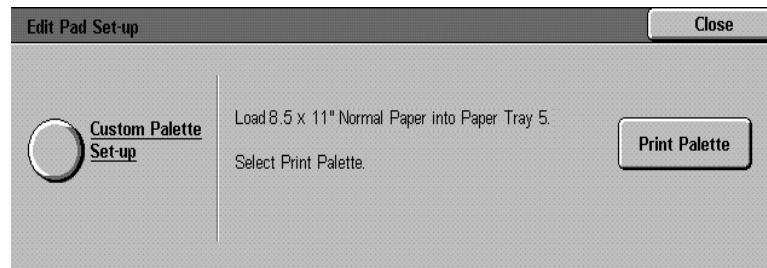

Figure 10: Edit Pad Set-up screen
- 7 From the **Edit Pad Set-up** screen (Figure 10) touch **Print Palette** to print the color palette of the registered colors.